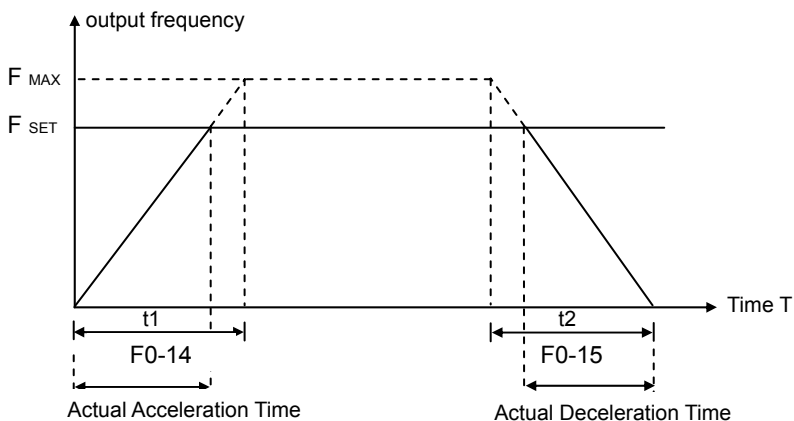

Figure 6-1 Definition of Acc/Dec time
- Acc time means the inverter outputs from zero frequency to the highest output frequency shown in Figure 6-1 as t1.
Dec time means the inverter outputs from the lowest output frequency to zero frequency shown in Figure 6-1 as t2.